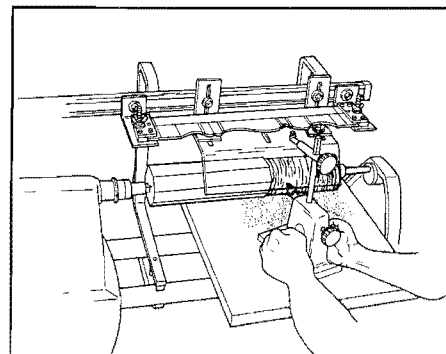

Figure 9. Roughly round off the corners of the workpiece by cutting small areas at a time.
6. **Round off the workpiece.** Check that the proper speed has been set, then turn on the Mark V. Roughly round off the corners of the workpiece by cutting small areas at a time. (See Figure 9.) Start at the right-hand end of the workpiece. When each small area becomes round, you will feel less vibration and hear a change in the noise level.